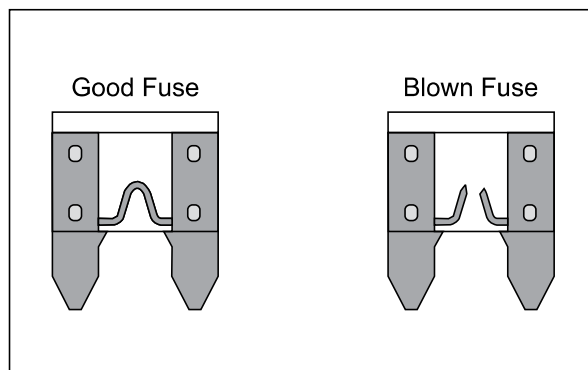

Fig. 5.3
- When a fuse blows, always investigate the cause, correct it and then replace the fuse. (Fig. 5.3)